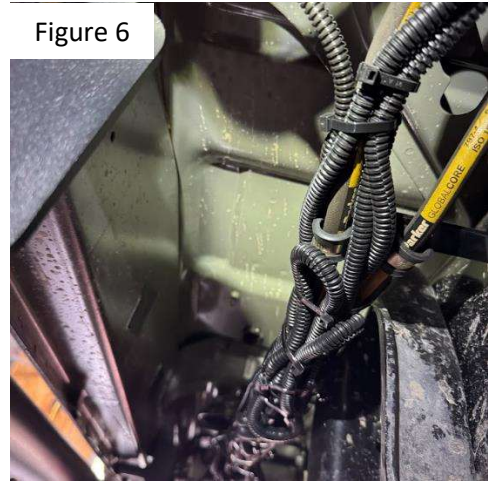

Figure 6
7. Follow the liquid springs harness forward until you reach the firewall, securing with zip ties every ~2ft (Figure 6)